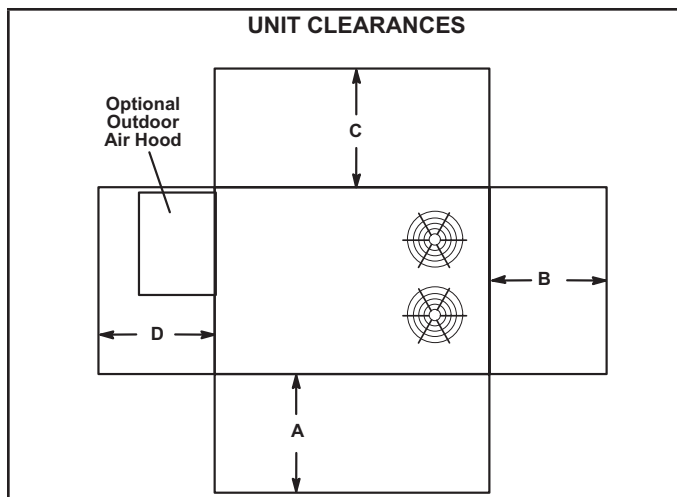

FIGURE 1
The LHT/LDT unit is ETL/CSA certified for outdoor installations only at the clearances to combustible materials listed on unit nameplate and in FIGURE 1.
The LDT unit is ETL/CSA certified as a heat pump with cooling and auxiliary gas heat for non-residential use only at the clearances to combustible materials as listed on the unit nameplate and in FIGURE 1.
- 2 - Specified installation clearances must be maintained when installing units. Refer to FIGURE 1.